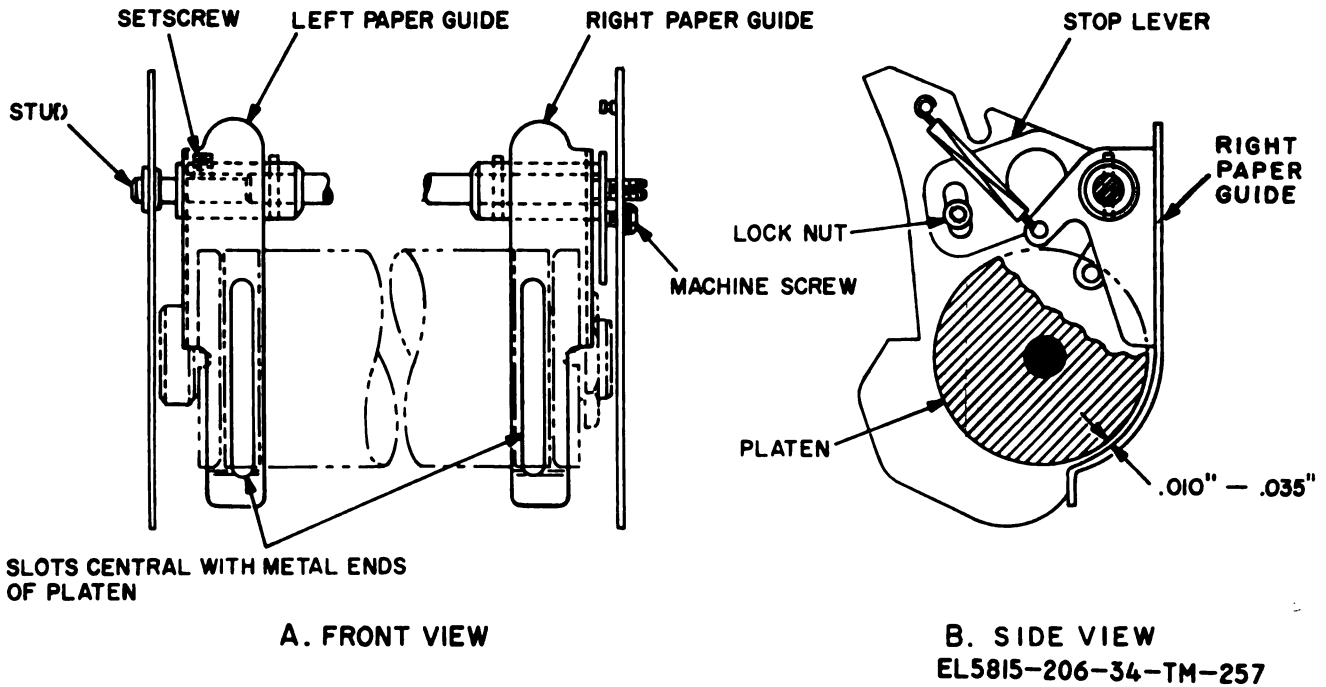

Figure 3-185. Paper-guide adjustment (TT-4C/TG, TT-335/TG, TT-537/G, and TT-698B/TG ).
**3-217. Paper-Guide Adjustment (TT-4C/ TG, TT-335/ TG, TT-537/ G, and TT-698B/ TG) (fig. 3-185)**
(1) The slots in the paper guides should be central with the metal ends of the platen.
(2) There should be 0.010- to 0.035-inch clearance between the paper guides and the platen.